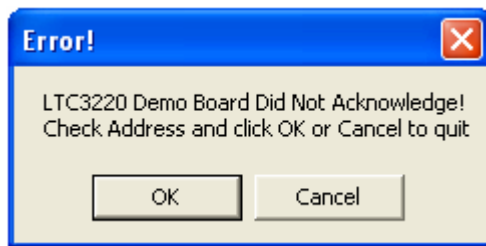

Figure 3. Acknowledge not received Error Message Box
**LTC3220/LTC3220-1** select button selects between the LTC3220 and the LTC3220-1 I2C address to drive demo boards with either the LTC3220 (DC1265A-A) or the LTC3220-1 (DC1265A-B). If the button is not selected to the correct address and an Acknowledge is not received, an Error message box pops up as shown in Figure 3. Select OK to return to the program to correct the problem or select Cancel to quit the program.